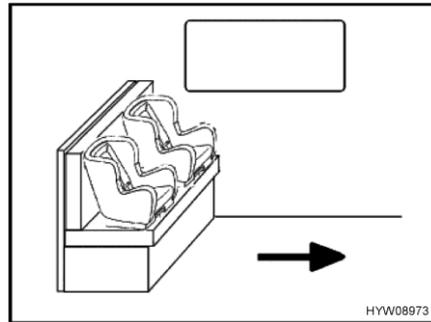
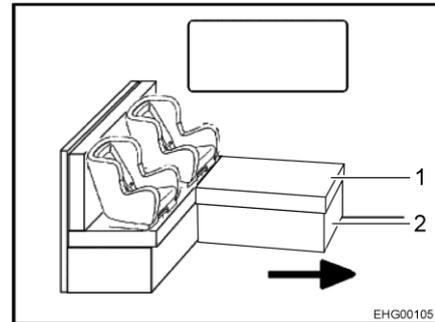

Fig. 23 Child seats on bench
Fig. 24 Child seats on L-shaped bench
The arrow in Fig. 23 and Fig. 24 shows the direction of travel.
- Remove the cushion (Fig. 24,1) if necessary.
- Fold the chest frame (Fig. 24,2) if necessary.